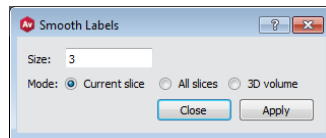

Figure 7.8: Smooth labels dialog
- In the *Segmentation* menu, select *Smooth labels...* (see Figure 7.8).